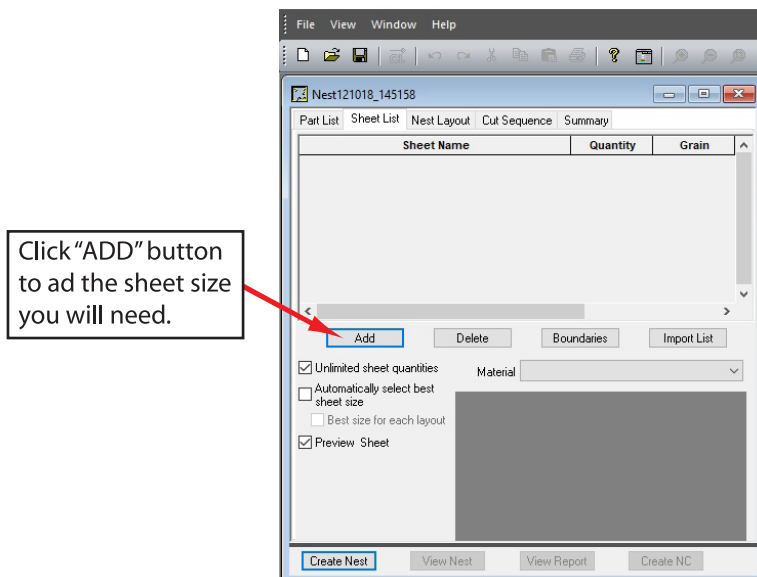
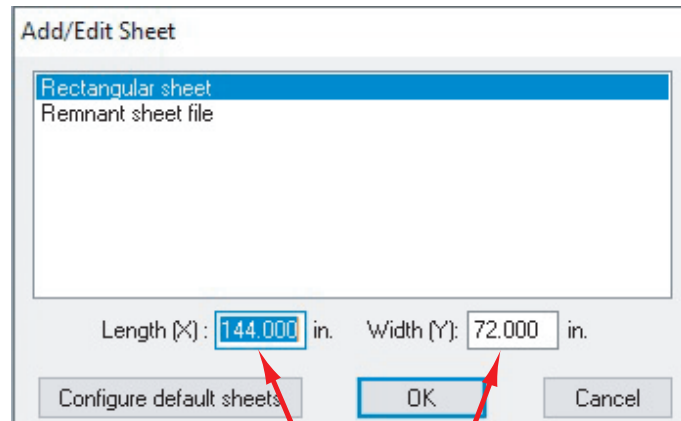

Fig.5
Fig.6
- 4) Now you will add the size of material you will need for the nest by selecting the “ADD” button, Fig.5. After selecting the ADD button, a drop-down window will appear in which you can input your Length and Width of the sheet you are going to use as shown in Fig.6 on the next page.
5) This is the window to input the sheet size you want to use for this nest, Fig. 6 below.